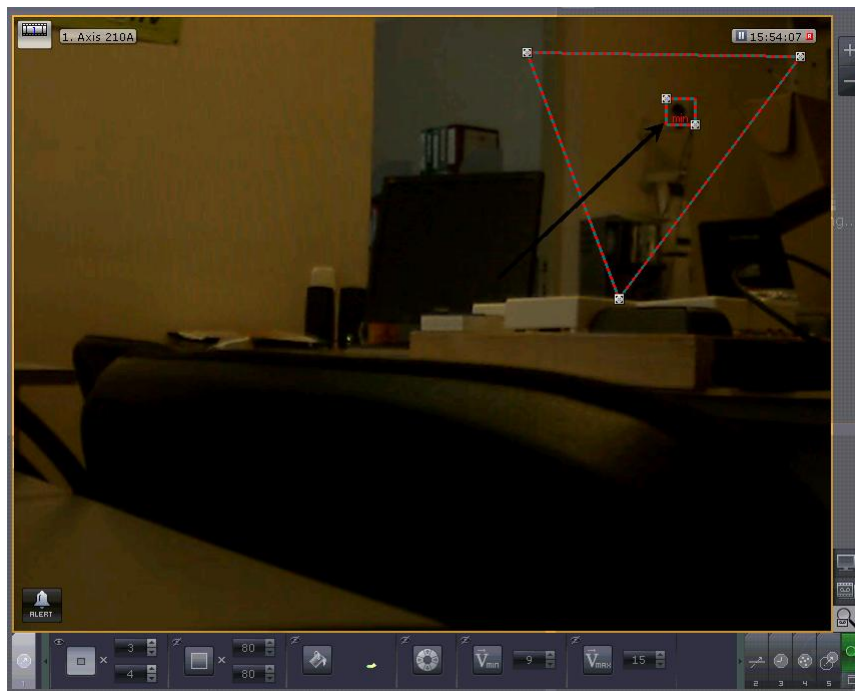

Fig. 7.3—72 Visual element representing an object of minimum size
2. When you do this, a visual element (Fig. 7.3—72) will appear which serves a dual purpose: to be a graphical representation of an object of minimum (maximum) size and to set this size.